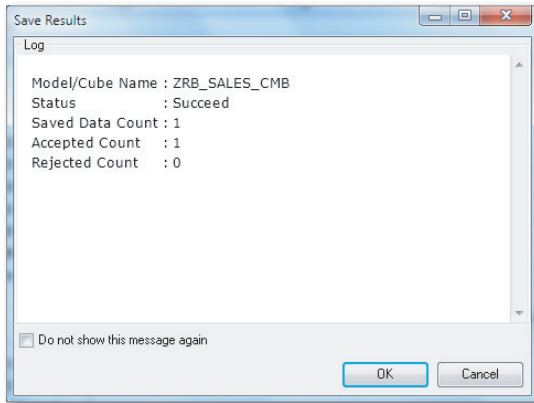

Figure 5.42 Creating an Input Form—Part E
6. After you confirm the action to continue, a message log displays the details of the records updated in the database (Figure 5.42).